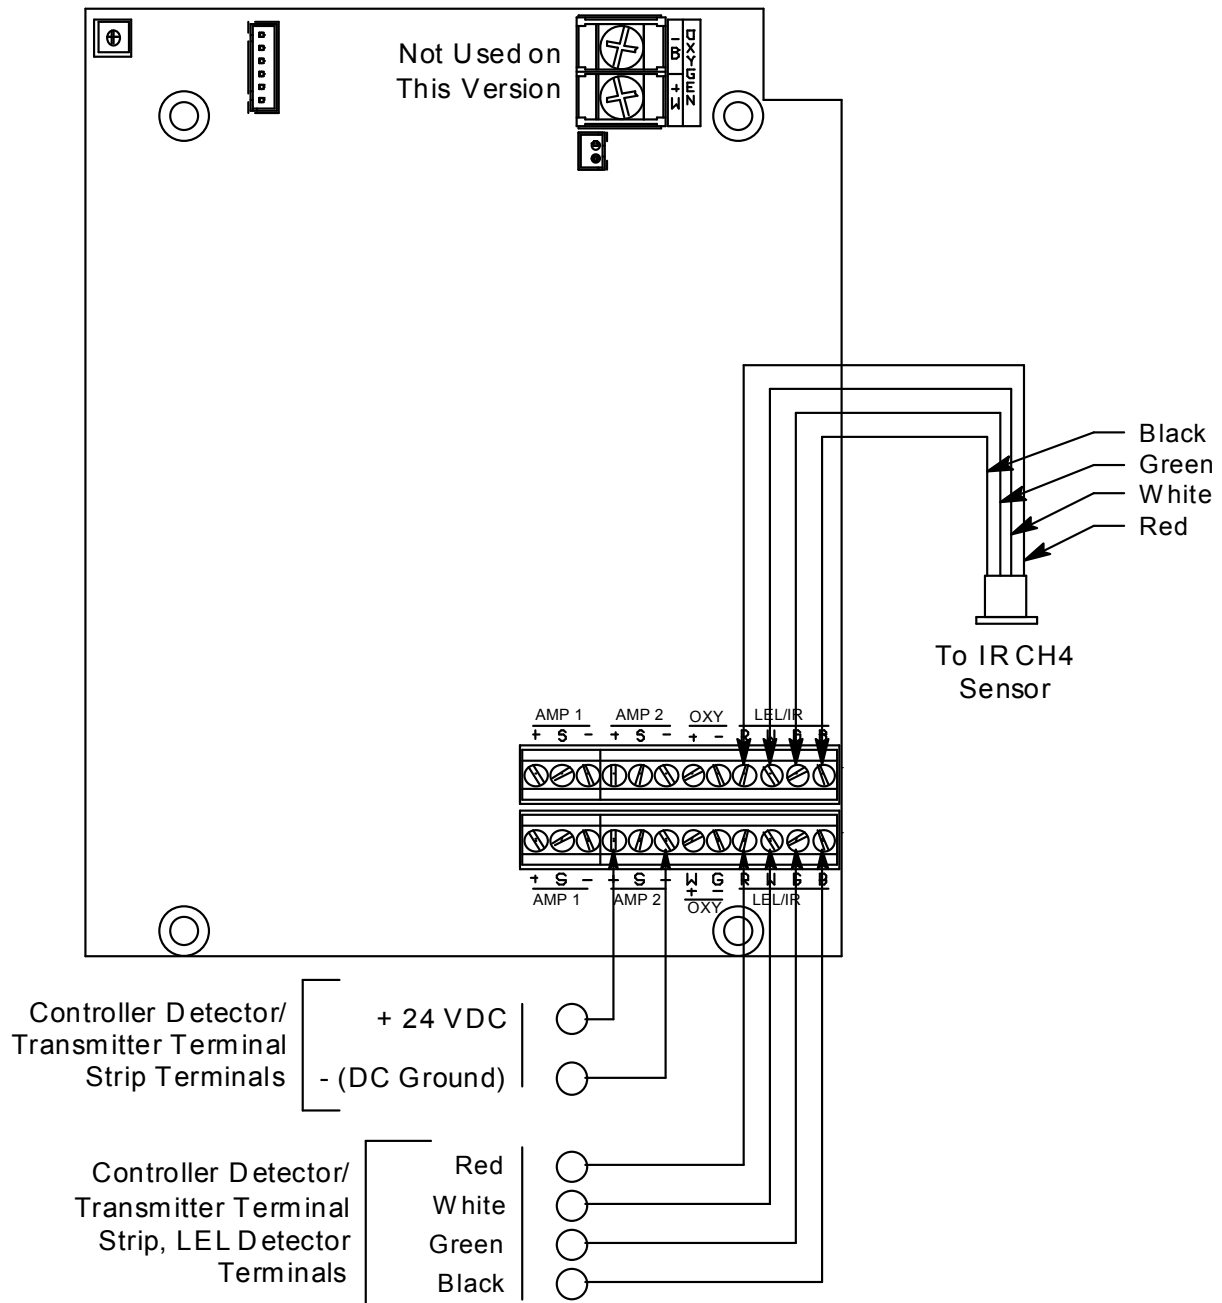

Figure 4: Wiring the Sample-Draw Detector to a Controller
5. Connect the cable to the sample-draw detector’s interconnect terminal strip as shown in Figure 4.
8. Connect the wires to the applicable detector/transmitter terminal strip at the controller as shown in Figure 4. Refer to the controller operator's manual and the controller detector head specification sheet for the 35-3001-01-03 for detector/terminal strip connections specific to the controller.